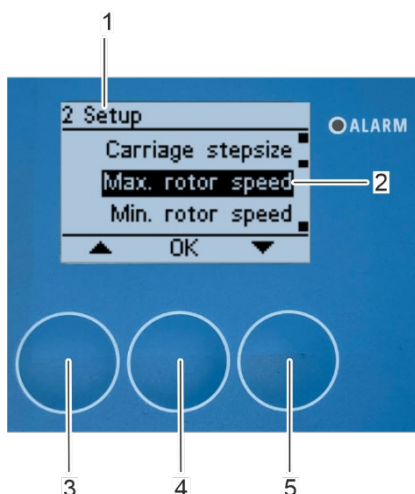

Fig. 130: Open submenu "maximum rotor speed"
1. Select the "Max. rotor speed" submenu (Fig. 130/2) with the arrow keys [up] (Fig. 130/3) and [down] (Fig. 130/5) in "2 Setup" submenu (Fig. 130/1).
2. Confirm the selection with [OK] (Fig. 130/4).